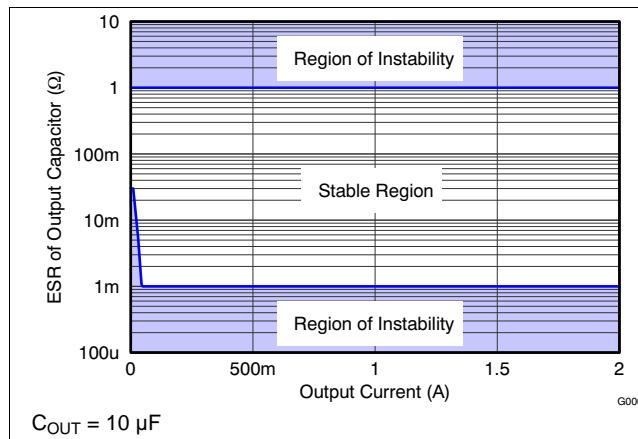
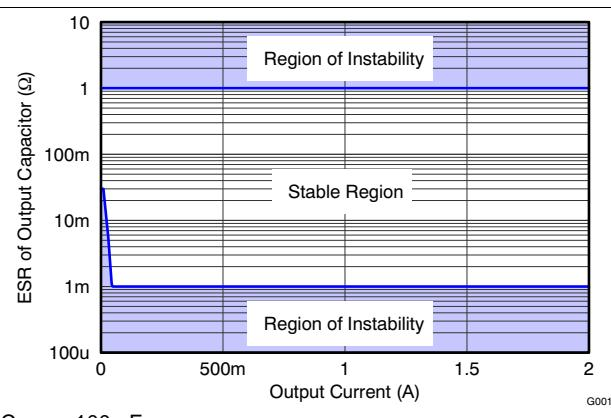

Figure 1. Stability Curve
Figure 2. Stability Curve
(1) See Figure 1 and Figure 2 for additional output capacitor ESR requirements.
(2) For output capacitors larger than 47 μF, a feedforward capacitor of at least 220 pF must be used.